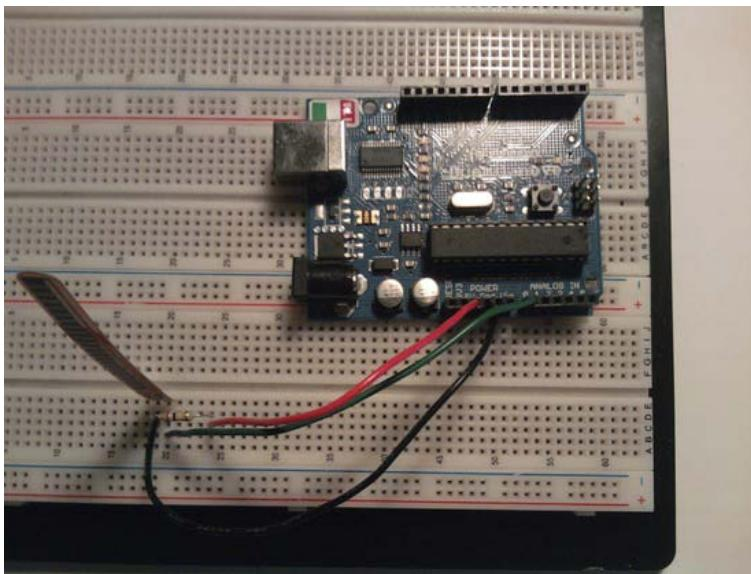

Figure 6-17. Hardware configuration for this project
4. Connect power (+5V) to the other end of the 100kohm resistor, and connect analog pin 0 to the same pin on the Flex sensor that has the 100kohm resistor attached to it. Figure 6-17 illustrates the hardware configuration for this project.